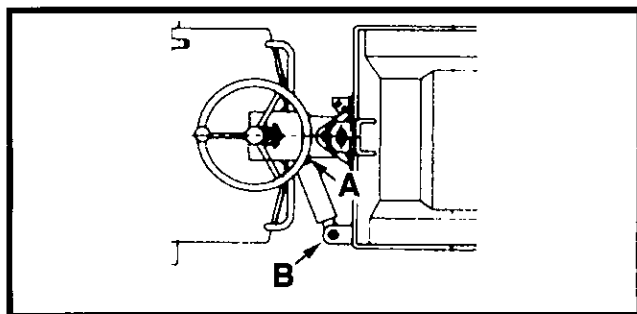

Figure 4-15 Steering Cylinder Pins and Bushings
7. Check wear conditions on the steering cylinder mounting pins and bushings (A, B, Figure 4-15). Any wear in the pins and bushings should be noted and proper personnel notified.